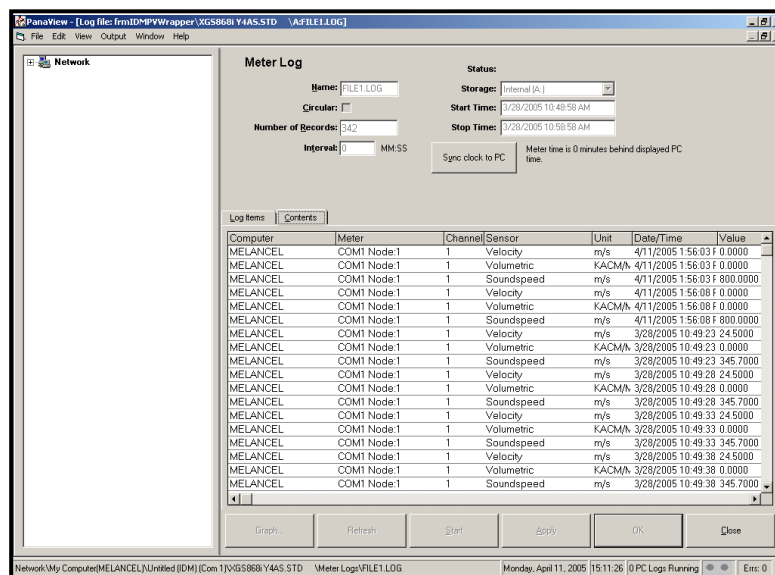

Figure 21: Typical Log Contents
- Click on the *Contents* tab (see Figure 21 on page 61) for a list of all the data points logged to date for the parameter currently highlighted on the *Log Items* tab.
Remember that only two parameters per channel may be graphed, and that the same two parameters must be graphed for each channel of a multi-channel graph display. When you have finished viewing the graph, click on the **[Close]** option button to close the Graph window and leave the log running. To review log details, click on the **Contents** tab. The window now appears similar to Figure 21.
- Click on the *Log Items* tab (see Figure 21 on page 61) for a list of the parameters specified for logging.